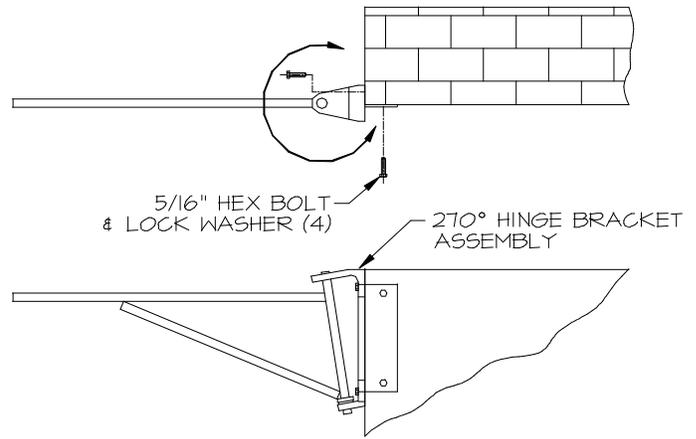

FIG. 3
b. 270° jamb mounting (270° door swing) (Figure 3).